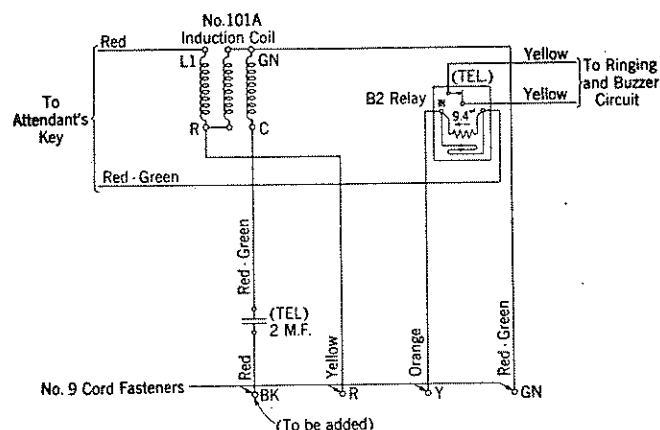

Fig. 1—Wiring of Telephone Circuit for Anti-Sidetone Connections 505 Type PBX's. (For Boards Where (BK) Cord Fastener Has to Be Added.)
Two Feet of No. 22 D.S.C.C. Single Orange Wire (For Figs. 1, 2 and 3)
Two Feet of No. 22 D.S.C.C. Single Red Wire (For Figs. 1 and 3)
3.11 Connect the wiring to the induction coil, relay, condenser and cord fasteners in accordance with Fig. 1 or 2.
4.02 Inspect all wiring and check to see that the connections have been made in accordance with either Fig. 1, 2 or 3.